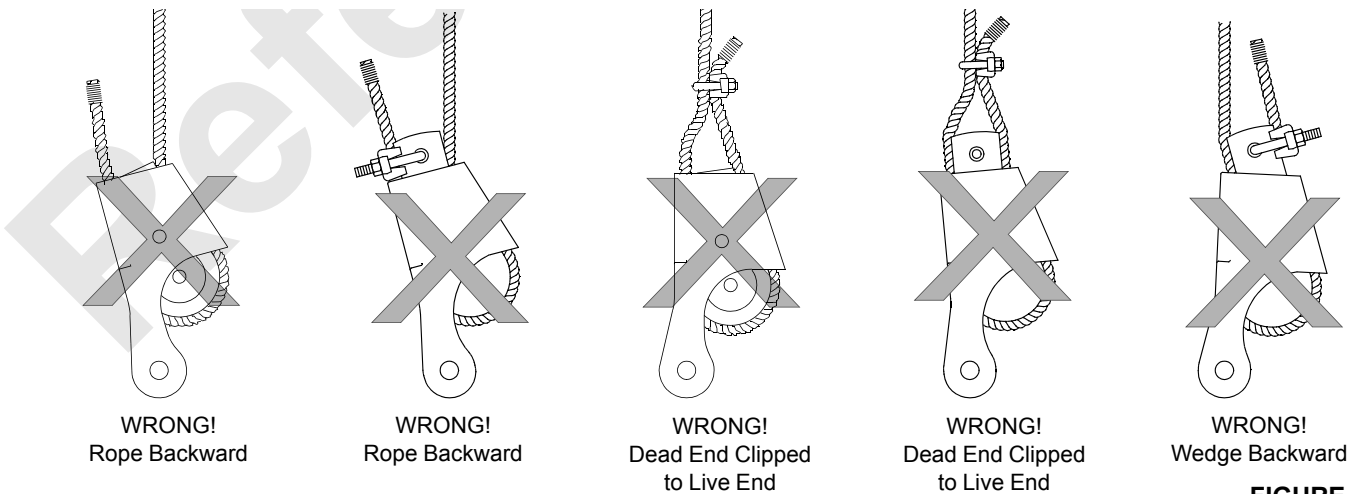

FIGURE 4-65
See Figure 4-65 for the following procedure.
1. Assemble the wire rope and wedge to the socket so that the live end of the wire rope is in a straight line with the socket pin hole. Do not assemble the wrong ways shown in Figure 4-65.
5. Attach a wire rope clip to the dead end of the wire rope using one of the right methods shown in Figure 4-65. The rope clip will aid in preventing the wire rope from being pulled out of the socket.